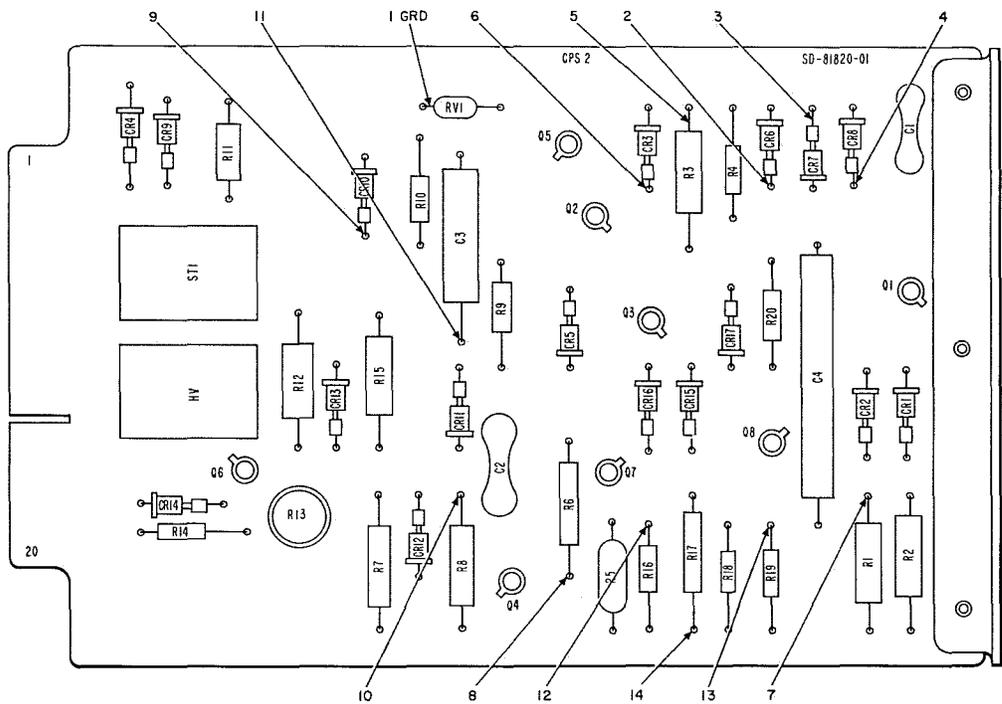

Fig. 2—CP2 Gate Pulse Control Circuit—Component Designation and Test Points
(4) Connect the vertical input of the oscilloscope to test point 7.		Q3, CR3, R9, R6, or R10 defective.
(5) Connect the vertical input of the oscilloscope to test point 6.		Q1, CR1, R1, or R3 defective. CR4 on CP2 shorted or open.
(6) Connect the vertical input of the oscilloscope to test point 8.		Q4, CR4, R7, or R8 defective. CR9 on CP2 shorted or open.
B. Possible Fault in CP2 Gate Pulse Control Circuit (Refer to Fig. 2.)